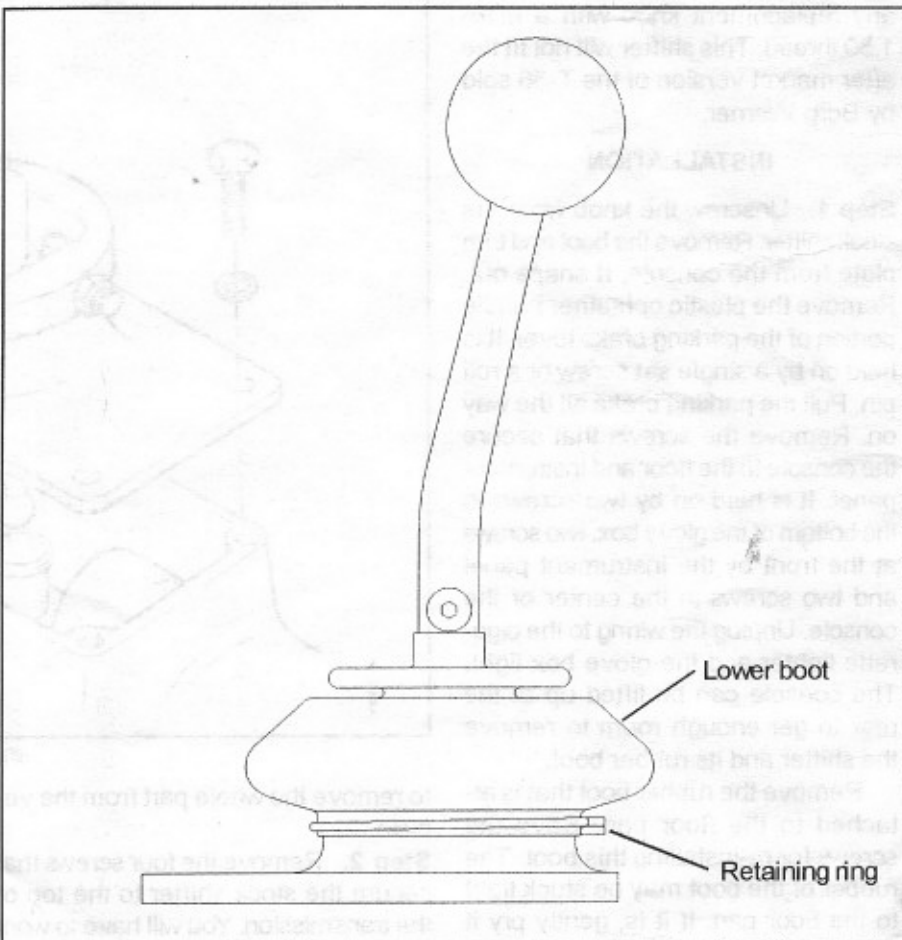

Figure 3
**Step 6.** Install the new lower boot supplied with the Ripper shifter. First put the retaining ring around the bottom of the shifter, below the stop screws. Then install the boot over the shifter being sure that the long side of the rectangular hole is to the left. Work one end over the stop screw and then the other end. The rectangular portion goes between the two screws that hold the upper stick to the lower stick. Squeeze the retaining ring with your fingers and put it around the lower part of the boot. (See **Figure 3.**) This lower boot must be used to keep dirt and water out of the shifter mechanism.